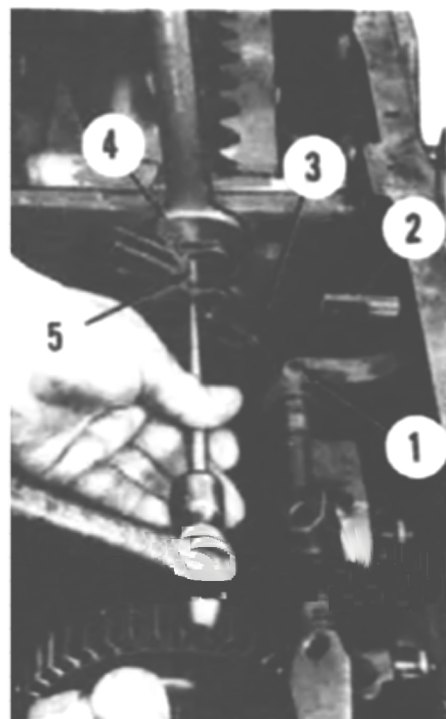

Fig. 89 - View showing procedure for removing parking brake band. Refer to text.
Disassemble the range transmission as follows: Refer to Fig. 89 and disconnect brake linkage at (2), remove pin using an open end wrench (4) to support